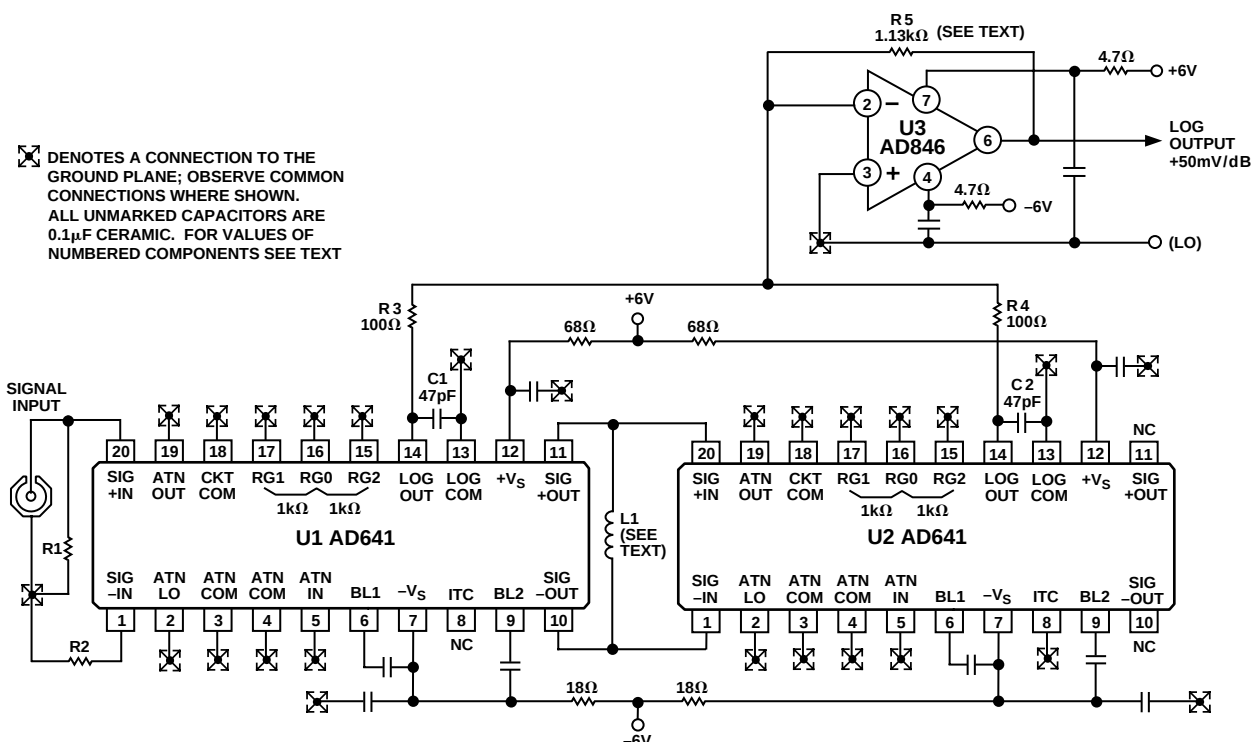

Figure 32. Complete 58 dB Dynamic Range Converter for 250 MHz Operation
resistor of nominally 270 Ω and low temperature coefficient (TC). It is trimmed to calibrate the intercept to 10 mV dc (or -24 dBm for sinusoidal inputs), that is, to an attenuation of nominally 20 dBs at $+27^\circ\text{C}$. R2 has a nominal value of 30 Ω and has a high positive TC, such that the overall attenuation factor is 0.33%/°C at $+27^\circ\text{C}$. This results in a transmission factor that is proportional to absolute temperature, or PTAT. (See Intercept Stabilization for further explanation.) To improve the accuracy of the attenuator, the ATN COM nodes are bonded to both Pin 3 and Pin 4. *These should be connected directly to the "SIGNAL LOW" of the source* (for example, to the grounded side of the signal connector, as shown in Figure 32) not to an arbitrary point on the ground plane.
For a larger dynamic range two AD641s can be cascaded, as shown in Figure 32. The low end usefulness of the circuit will be set by the noise floor of the overall environment that the circuit sees. This includes all sources of both radiated and conducted noise. Proper layout to avoid conducted noise and good shielding to minimize radiated noise are essential for good low signal operation.